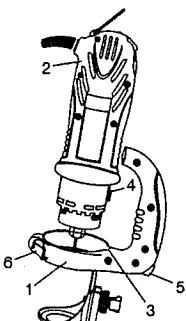

Fig. 10
1. Slide precision handle mounting bracket (1) onto the bottom of motor housing (2) until the slot under the handle (3) lines up with the shaft locking button (4) in the motor housing (see Fig. 10).
b) The shaft locking button (5) can now be activated by your thumb while holding on to the precision handle
2. Lock the precision handle to the motor housing by snapping the quick locking lever (6) firmly against the motor housing.